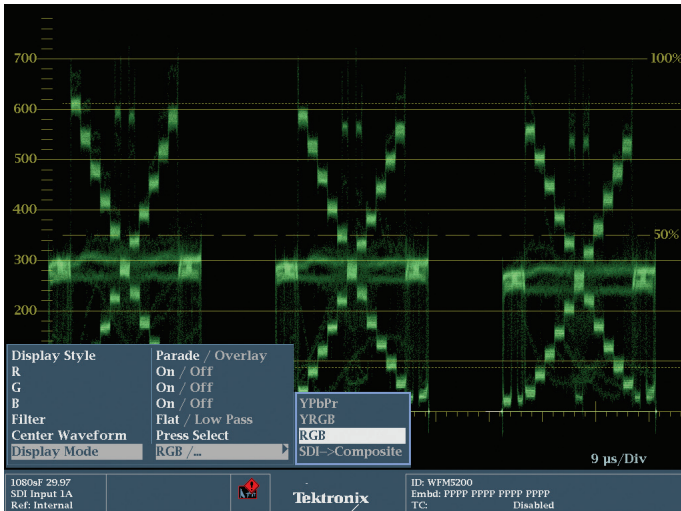

Figure 5-1. This shows the results of steps 1-4.
4. Switch the Display Style to Parade. Make sure the R, G and B channels are selected as ON, and make sure the Display Mode is set to RGB (Figure 5-1).